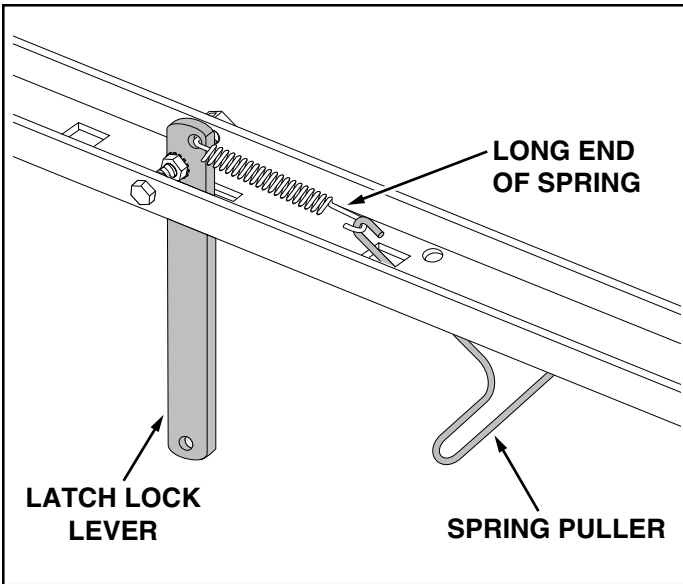

FIGURE 2
- Attach the **short** end of the spring to the hole in the latch lock lever. Use the spring puller to attach the **long** end of the spring to the square hole in the tongue. The hooked end of the puller should face away from the tongue as shown in figure 2.